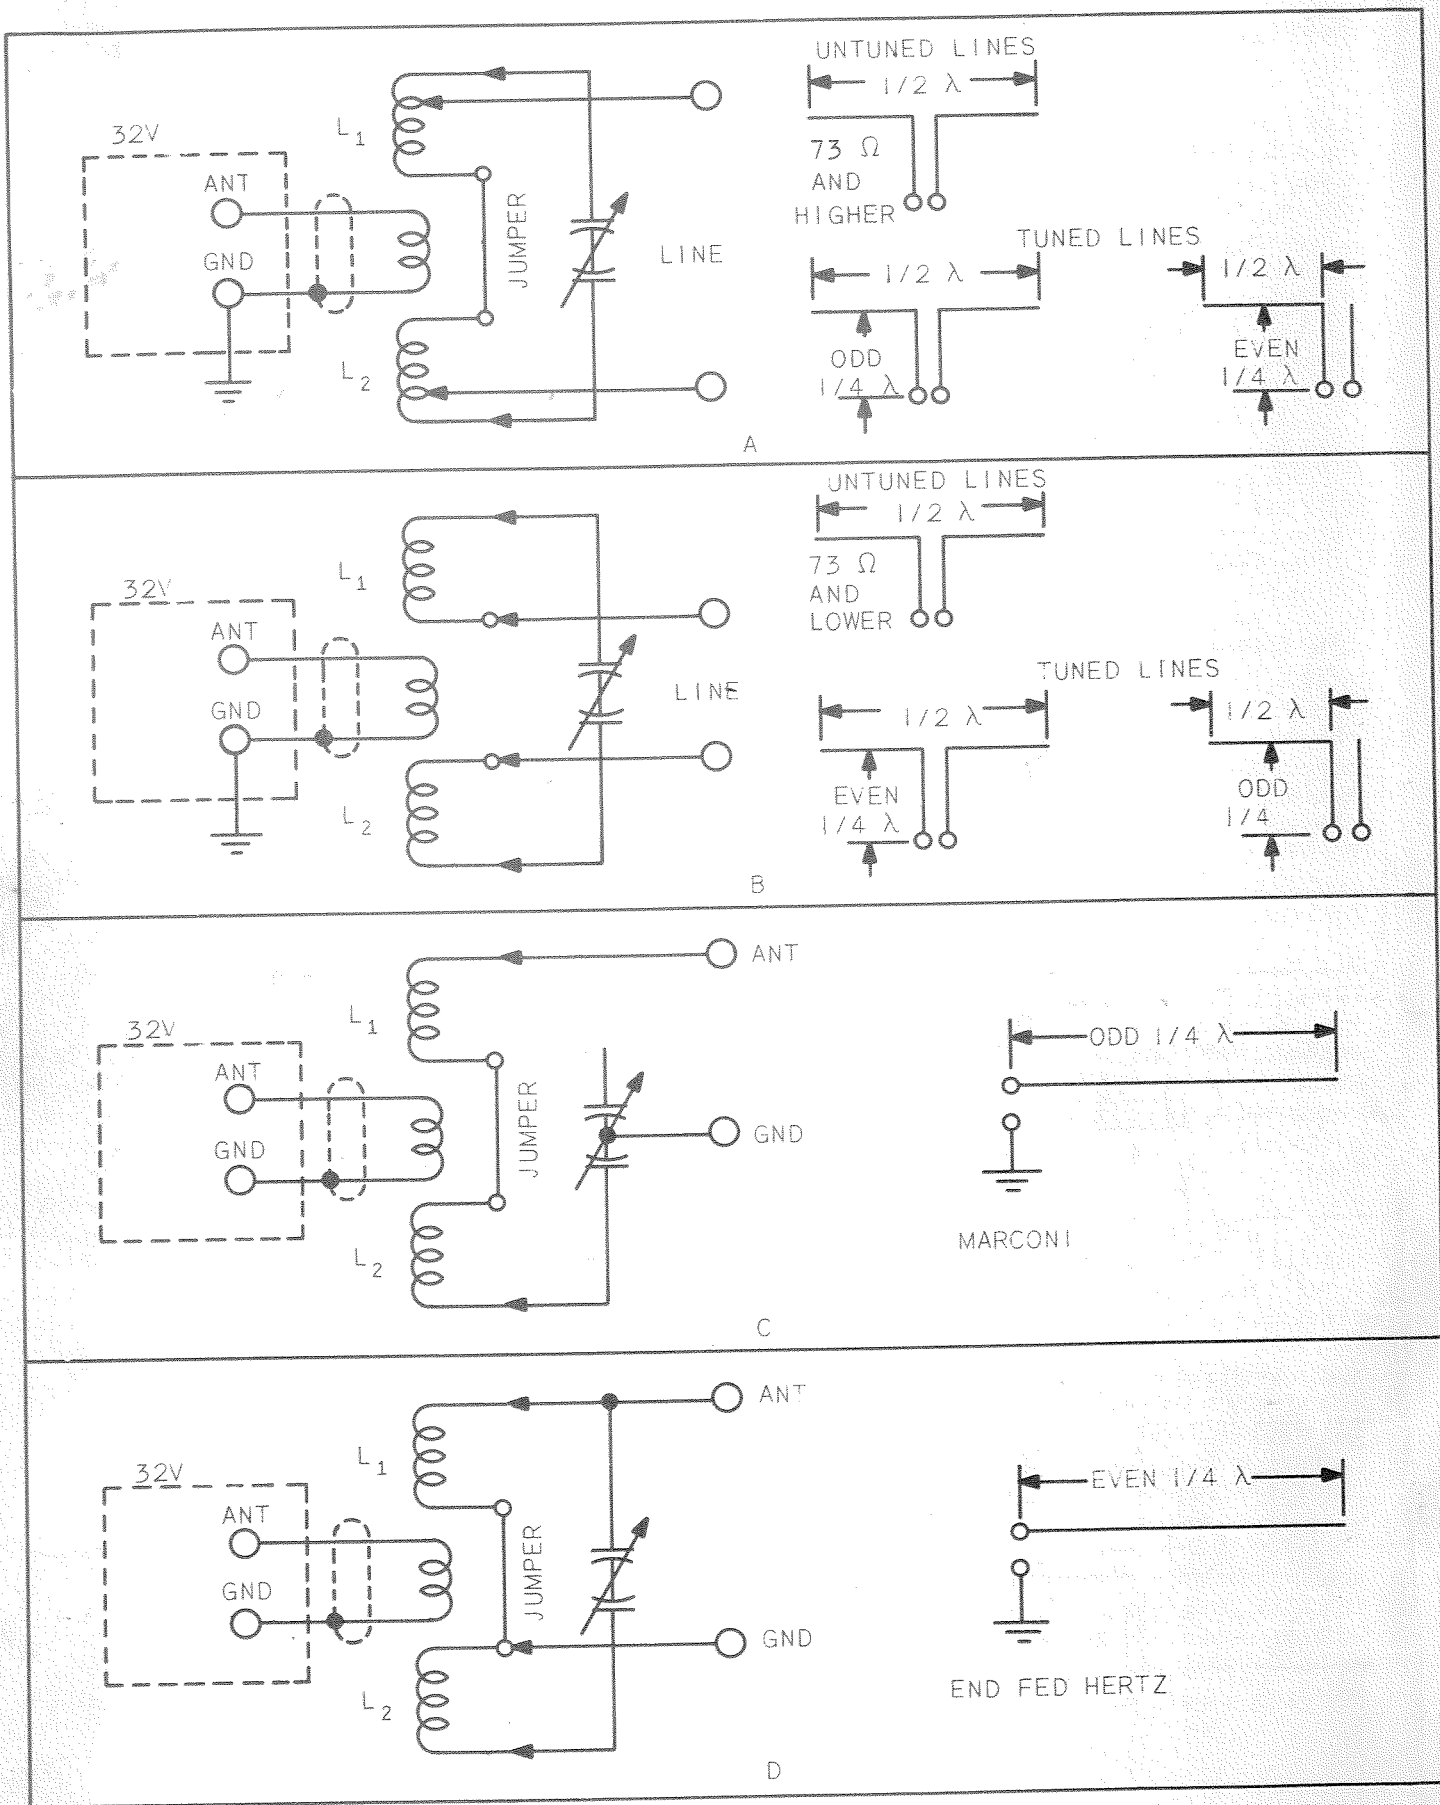

Figure 2-3 Typical Antenna Tuner Circuits
2.3.6. EXTERNAL ANTENNA TUNER. (Not available) To feed balanced transmission lines, tuned or untuned, couple the transmitter to the transmission line through a simple, tuned circuit. This arrangement will match a wide range of impedances. It will also add further attenuation to harmonics causing TVI, providing it is completely shielded. Figure 2-3 illustrates an antenna tuner that will function satisfactorily in this application. The impedance of the transmission line is matched by proper choice of taps on the inductances L1 and L2. The coupling link is coupled as tightly as possible and all loading adjustments are made by means of the LOADING control on the 32V-3. On the 15, 11, and 10 meter bands, the number of turns in the coupling coil should not exceed one turn; two turns may be necessary on the 20 meter band.
a. UNTUNED HIGH IMPEDANCE TRANSMISSION LINES. If the line has a characteristic impedance of 73 ohms or more, employ parallel tuning of the antenna coils L1 and L2. For parallel tuning, close the jumper between the antenna coils. Transmission line taps then should be set on the same turns as the capacitor taps to start with, varied toward the center of the coils until proper loading is obtained. In this type of operation, low values of capacitance and high values of inductance for the operating frequency generally are best. See illustration A., figure 2-3.
b. **UNTUNED LOW IMPEDANCE TRANSMISSION LINES.** Transmission lines having a characteristic impedance of less than 50 ohms require series tuning of the antenna coils. This is done by opening the jumper between the coils and moving the transmission line tap arms to the inside coil turns. The capacitor taps should be set at the outside turns and varied toward the inside turns until proper loading is obtained. Higher values of tuning capacity usually work out best in this type of operation. See illustration B., figure 2-3.
e. **QUARTER WAVE MARCONI.** Series tuning is indicated for quarter-wave Marconi antennas. In this type of operation, connect the antenna tuning circuit so that the two sections of the antenna coil and one-half of the antenna tuning capacitor are in series. To do this, place a grounding jumper to the rotor of the antenna tuning capacitor, connect the antenna to one end of the antenna coil, connect one stator of the tuning capacitor to the other end of the antenna coil and disconnect the other stator completely. See illustration C., figure 2-3. In event r-f voltage appears on the cabinet, it can be minimized by extending the ground wire to 1/2 wave length and series tuning it until resonance is obtained.
f. **END FED HALF WAVE.** This tuner can be used to tune this type of antenna also. Employ parallel tuning for this type of operation. Connect the antenna to one end of the antenna coil, make a ground connection to the inside turn of one of the antenna coils and close the jumper between the coils. The tuning capacitor taps should be equally spaced from each end of the antenna coils for proper tuning at the operating frequency. See illustration D., figure 2.3